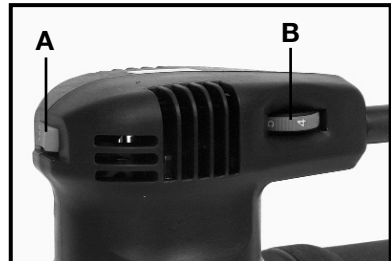

Fig. 1A
Adjust speed by turning thumbwheel (B) Fig. 1A. Thumbwheel position #1 provides the slowest operating speed (5000 OPM) and position #6 the fastest (12000 OPM). Speed may be changed while motor is running or while it is stopped.